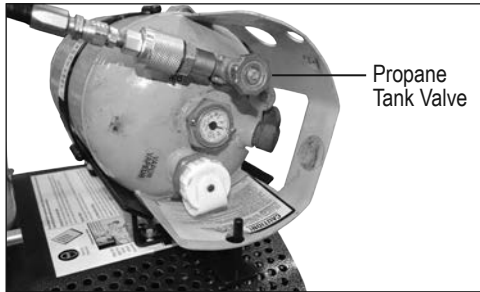

FIG. 10
4. Close propane tank valve (Figure 10).